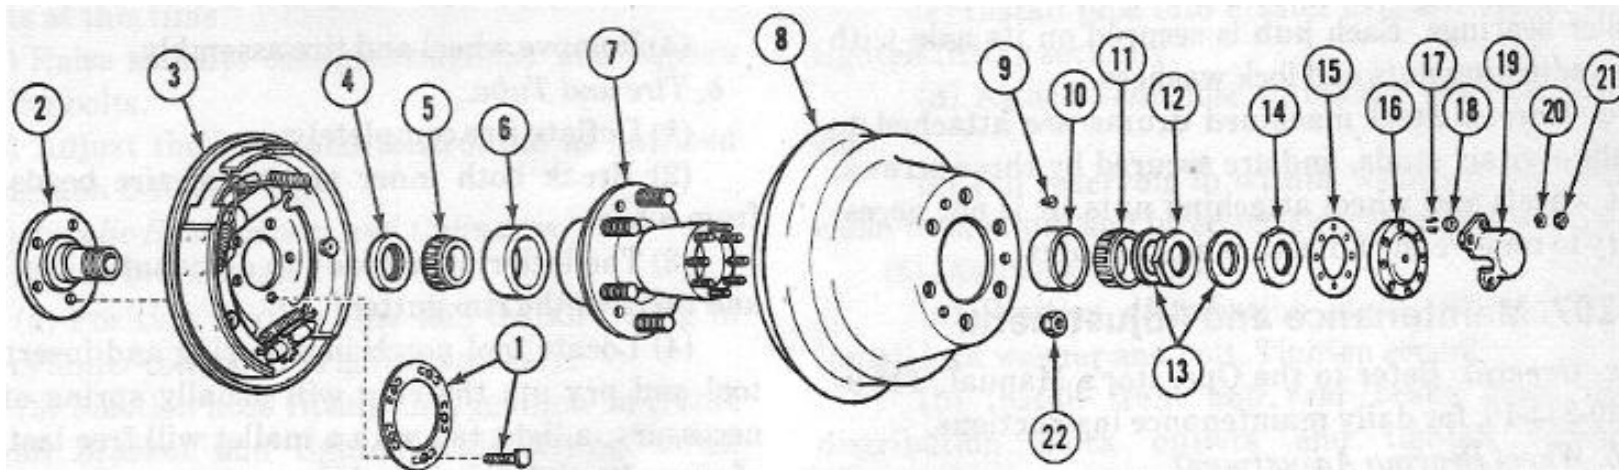

Figure 2-89. Front wheel attaching parts.
- (1) Deflate tire completely.
- (2) Break both inner and outer tire beads free from wheel.
- (3) The lock ring is ready to demount if it is loose and turns in the rim gutter.
- (4) Locate tool notch in side ring and insert rim tool and pry up, the ring will usually spring off. If necessary, a light tap with a mallet will free last half of ring after it has been pried up.
- (5) Remove tire from rim and remove inner tube.
c. Hub and Drum. (Fig 2-89 and 2-90)
- (1) Remove tire and wheel (a) above.
- (2) Remove three countersink screws attaching drum to hub.
- (3) Strike edge of drum with a mallet and pull straight off of hub.
- (4) Remove nuts and lock washers which secure axle shaft and/or driving flange to hub.
- (5) Remove axle shaft and/or driving flange and gasket; discard gasket.
- (6) Using Tool FSN 5120-168-2286, remove lock nut and lock washer.
- (7) Remove adjusting nut, inner lock washer and pull hub off of axle housing.
a. Bearings. (Fig 2-89 and 2-90)
- (1) Position inner bearing in hub race.
- (2) Position new oil seal on hub. Use driver tool and hammer, seat oil seal on hub.
- (3) Refer to (b) below for installation of outer bearing.
b. Hub and Drum. (Fig 2-89 and 2-90)
- (1) Apply a thin film of grease to each face of wheel hub seal.
- (2) Position hub assembly on axle housing.
- (3) Position outer bearing and lock washer over axle housing and in hub race.